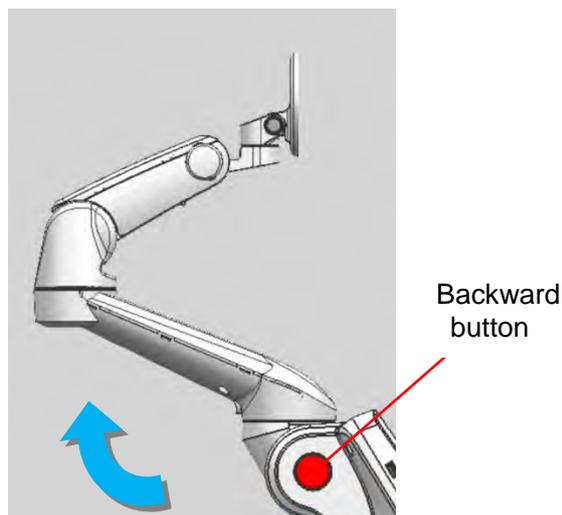

Fig.4-2 Lifting up the arm
- b) Hold up the arm. Hold down the backward button to move the arm. Then release the backward button and lift the arm up slightly until a click sound is heard. It means the arm is installed in place. See Fig. 4-2.